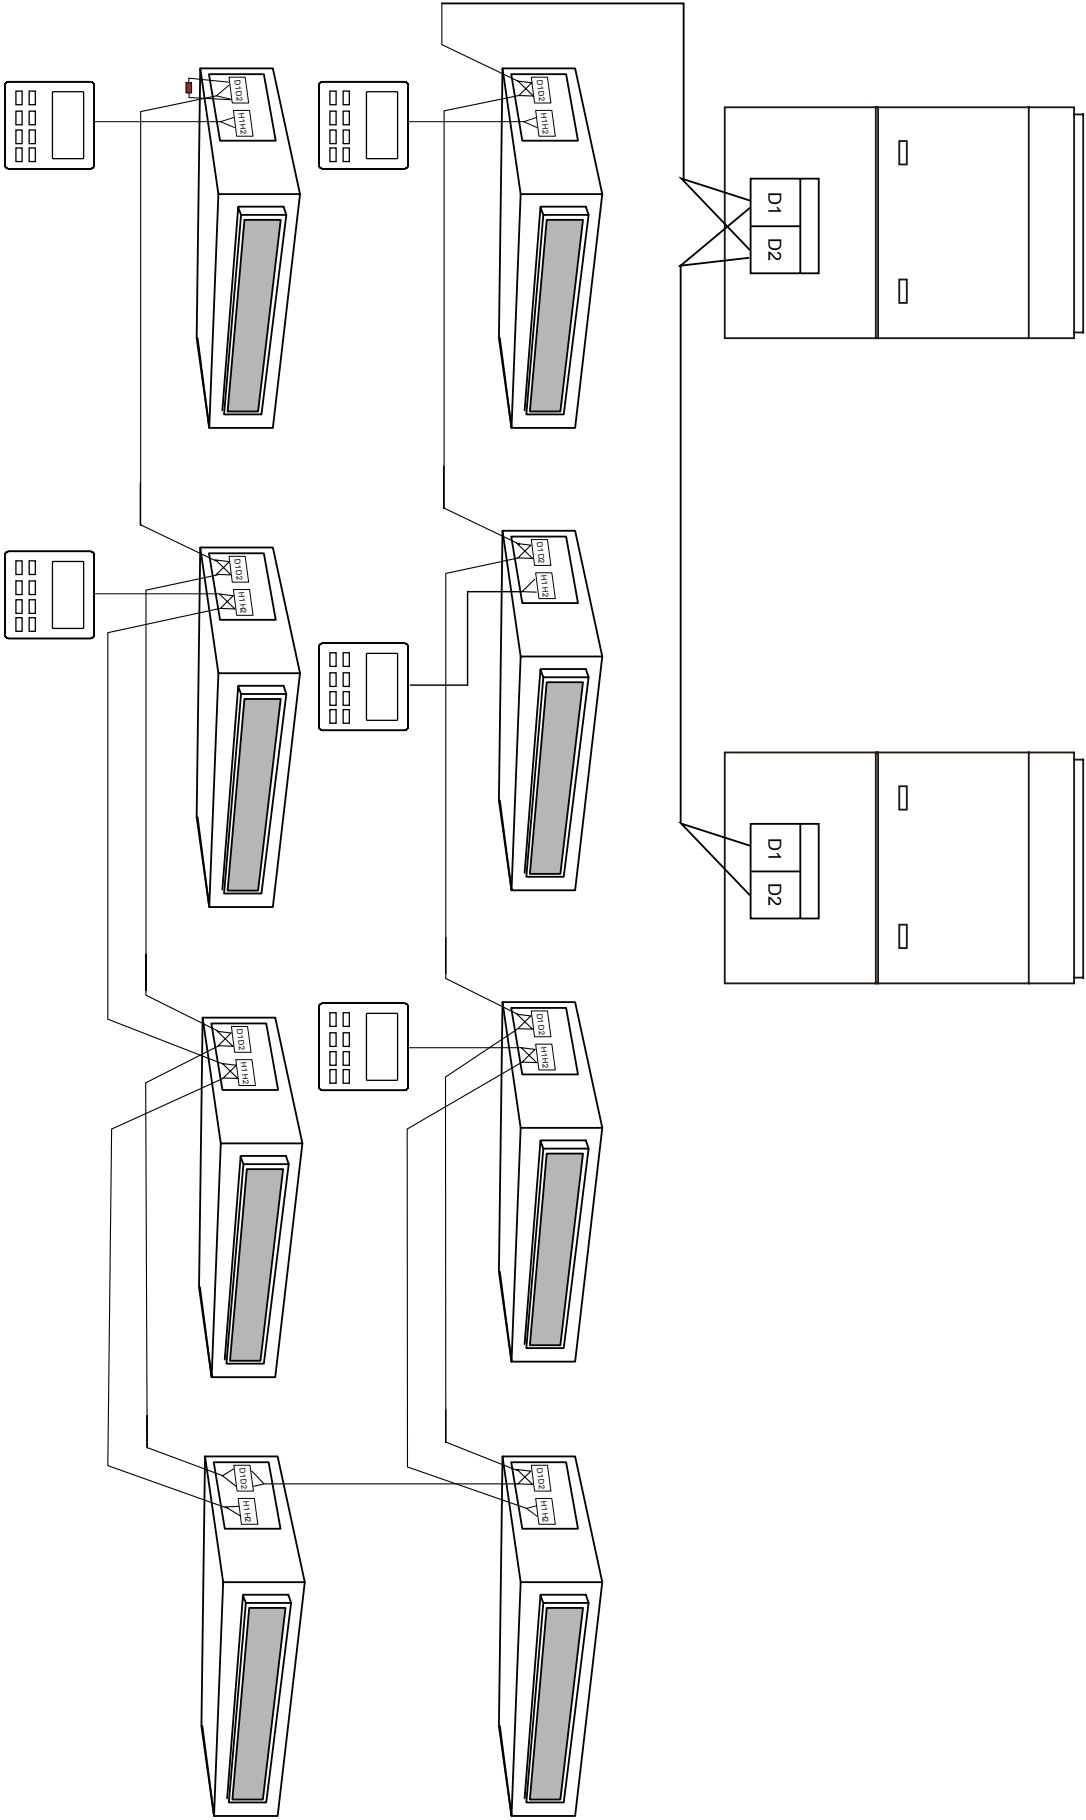

Fig 5.5
(1) Communication wire of indoor unit and outdoor unit (or indoor unit) is connected to D1,D2.
(2) Wired controller is connected to H1,H2.
(3) One indoor unit can connect two wired controllers that must be set as master one and slave one.
(4) One wired controller can control 16 indoor unitS in maximum at the same time. (as shown in fig5.5)